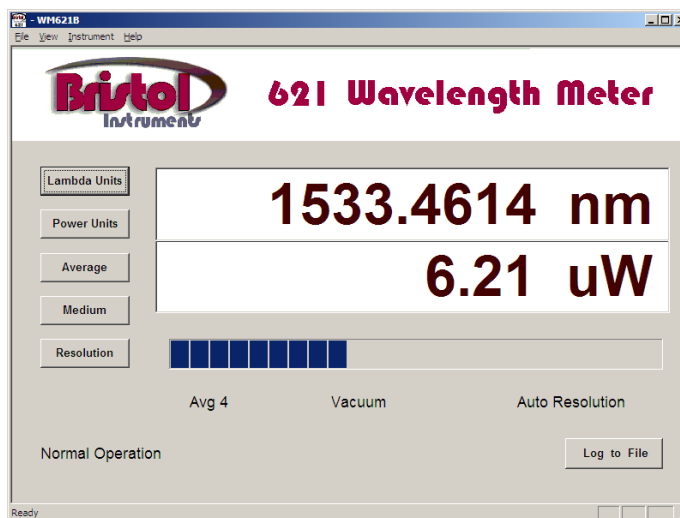

Figure 5.1: Model 621 Wavelength Meter Display (VIS and NIR versions)
- 3 A Windows-based graphical user interface, shown in Figure 5.1, will display laser wavelength and power as soon as a suitable laser source is connected to the fiber-optic input.